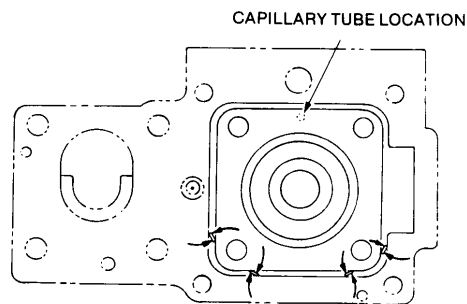

FIGURE 5-2 Upper Housing and Output Diaphragm
There is a blind capillary tube that cannot be seen until the output diaphragm assembly is removed from the upper housing. This small capillary tube is easily damaged if undue prying or force is used to separate the output diaphragm assembly from the upper housing. See Figure 5-2 and Step 10 for removal instructions.
10. Insert a screwdriver between the upper housing and the output diaphragm assembly at the locations shown by the arrows in Figure 5-2. Twist the screwdriver in the direction indicated by the arrows. Twist only enough to just move the output diaphragm assembly. Do not pry!